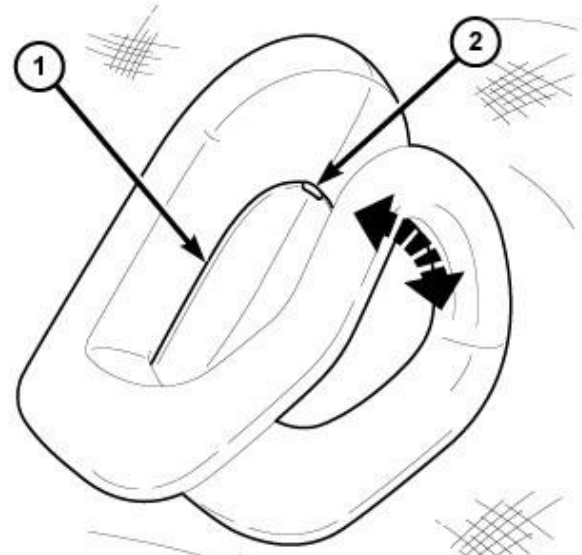

Figure 9 – Coat Hook
16. Using a small flat bladed tool, open the coat hook screw cover (2) then remove the screw and coat hook (Figure 9).
44. Position the coat hooks (5) onto the headliner and install the screws tightening securely into the mounting clips then close the screw cap fully (Figure 9).